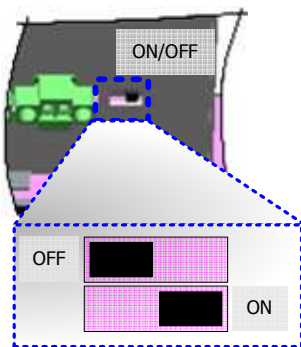

Figure 14-4: Power On Switch
- ON/OFF switch (Figure 14-4).
During the start up of the inverter it is mandatory to turn on the main display. Act, by setting the power switch to “ON”, shown in Figure 14-4.